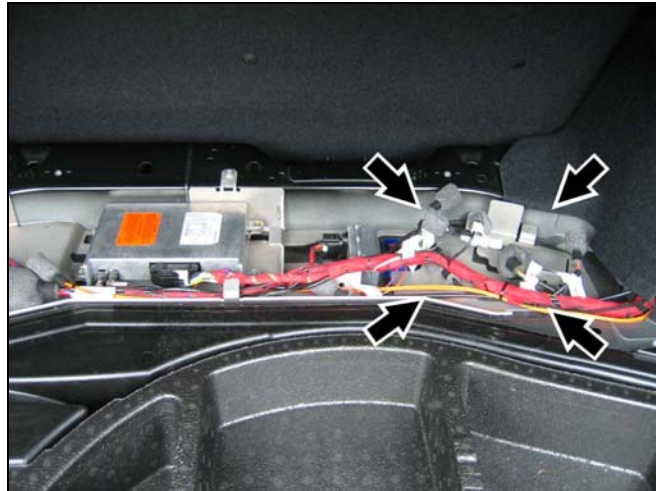

Figure 5
1. Find the mounting area and antenna cable connectors for the antenna switch at the right side of the exposed electronics compartment at the front of the trunk (Figure 5).